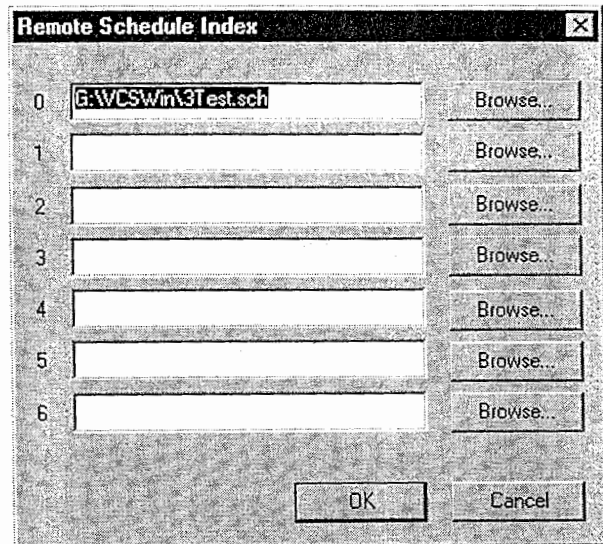

Figure 2-4. Remote Schedule Index Window.
- a. Select **Schedule Index...** to display the Remote Schedule Index Window. See Figure 2-4.